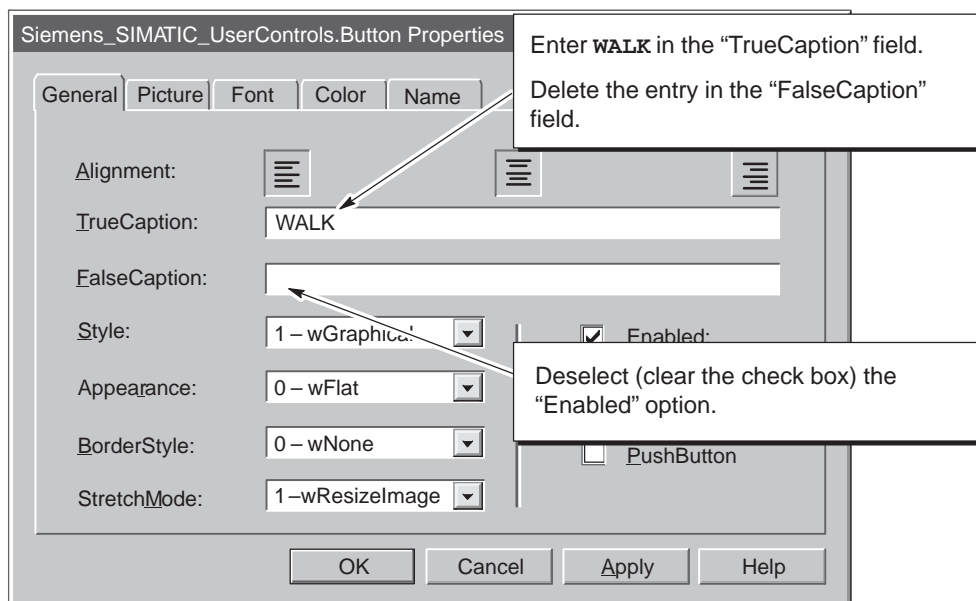

Figure 3-24 Configuring the Caption for Button2 (Button Control 2)
4. As shown in Figure 3-24, modify the labels (captions) for the control:
5. Click on the check box for the Enabled property and deselect this property. See Figure 3-24.